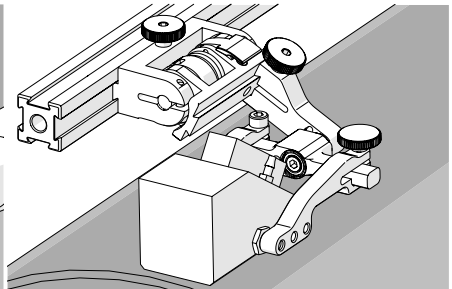

Fig. 53 - Spring loaded scan position
4. Gently lower the probe holder and wedge to the scanning surface (Fig. 53).